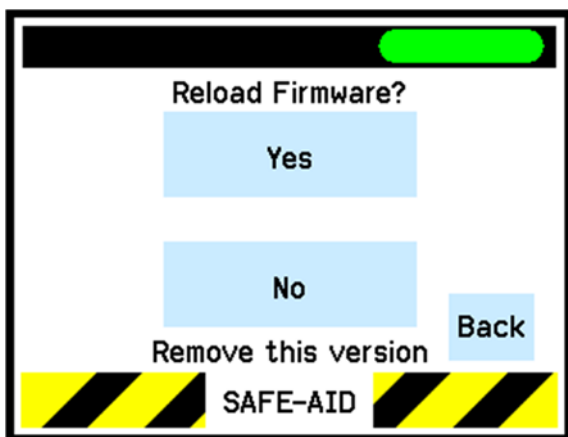

Figure 17
- **Reload Firmware** (Figure 17)